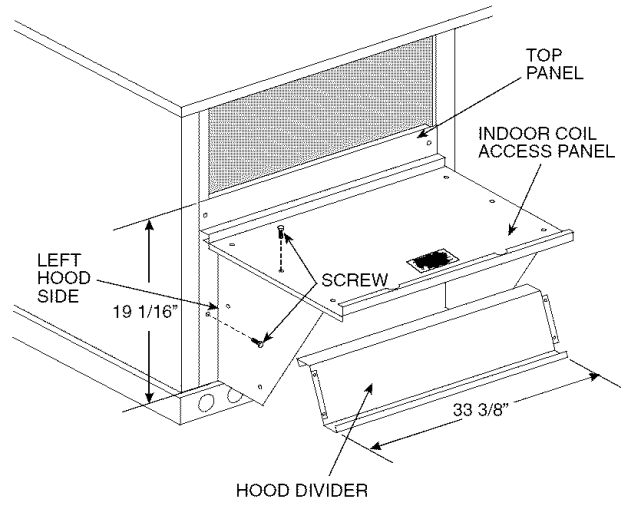

Fig. 26 — Outdoor-Air Hood Construction
4. Swing out indoor coil access panel and insert the hood sides under the panel (hood top). Use the screws provided to attach the hood sides to the hood top. Use screws provided to attach the hood sides to the unit. See Fig. 26.
6. Insert the hood divider between the hood sides. See Fig. 26 and 27. Secure hood divider with 2 screws on each hood side. The hood divider is also used as the bottom filter rack for the aluminum filter.